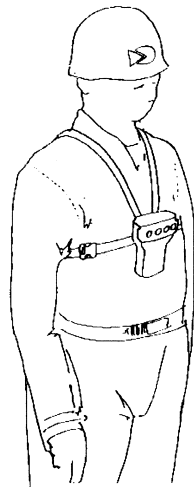

Figure 7 Chest harness
3. Chest harness (for use without carrying case - see figure 7).